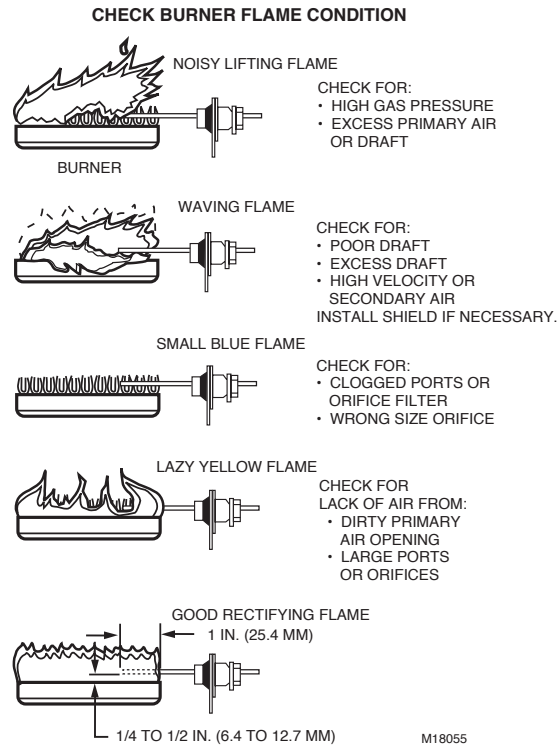

Fig. 7. Check burner flame condition.
1. Make sure burner flame is capable of providing a good rectification signal. See Fig. 7.
2. Make sure about 3/4 to 1 in. (19 to 25 mm) of the flame sensor is continuously immersed in the flame for best flame signal. See Fig. 7. Bend the bracket or flame sensor, or relocate the sensor as necessary. Do *not* relocate the igniter.